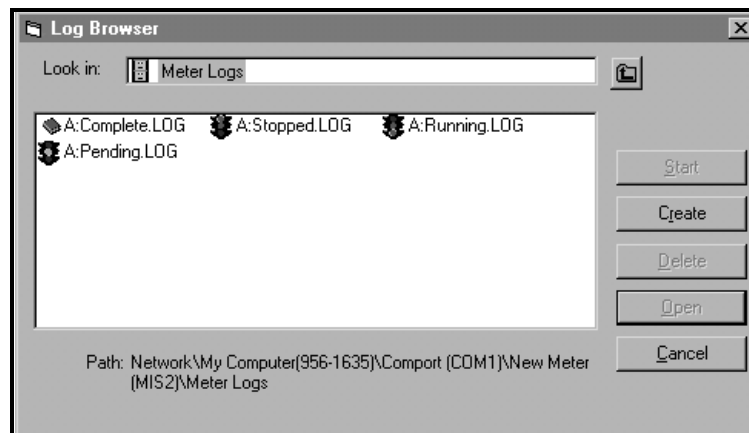

Figure 5-2: Log Browser Window
3. Double-click on *PC Logs* to access the stored PC logs, or on the *communication port* name and the *meter* name to access the stored meter logs. In either case, the *Log Browser* appears similar to Figure 5-2 below.